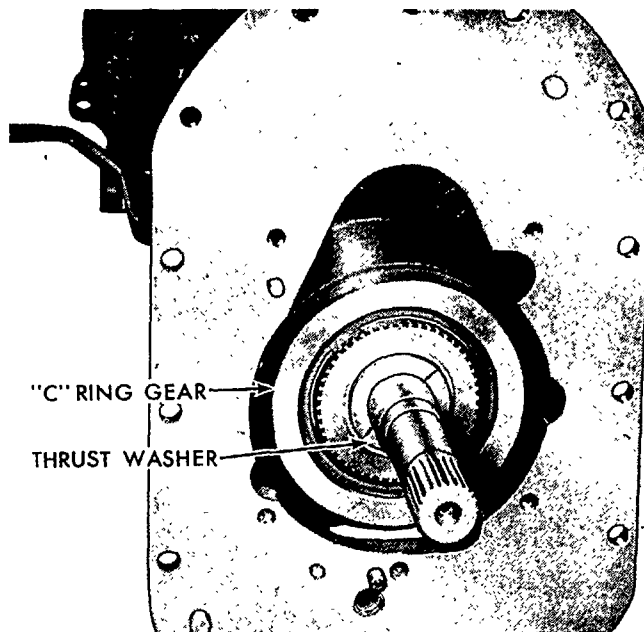

Figure 83
26. Install the "C" ring gear and output shaft as an assembly by aligning the output shaft splines with the splined plates in clutch 3, and by aligning the ring gear with the "C" carrier pinions, Figure 83. Rotate the output shaft back and forth while applying pressure toward the clutch assembly.